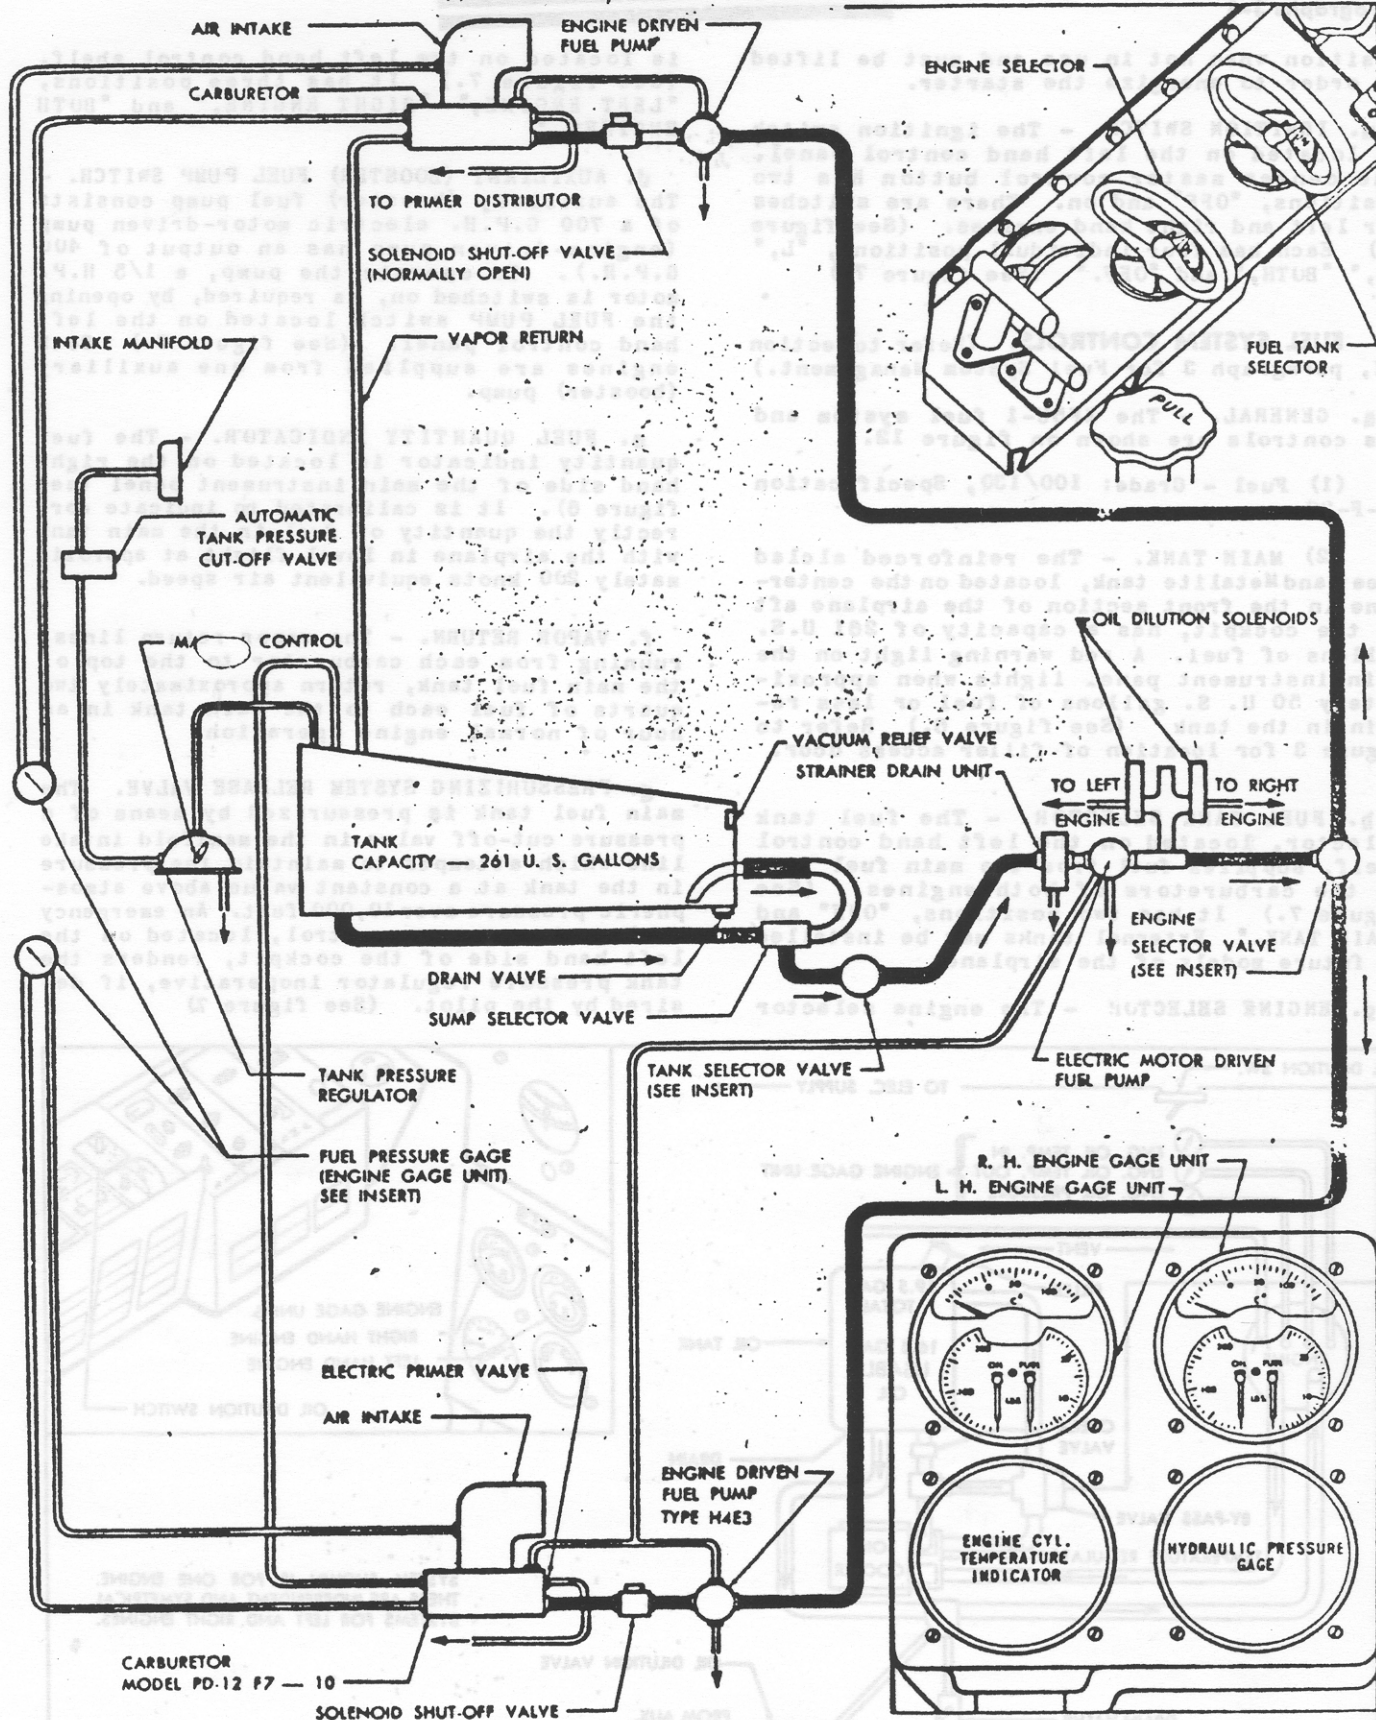

Figure 12 — Fuel System Diagram
a. **GENERAL.** - The XF5U-1 fuel system and its controls are shown on figure 12.